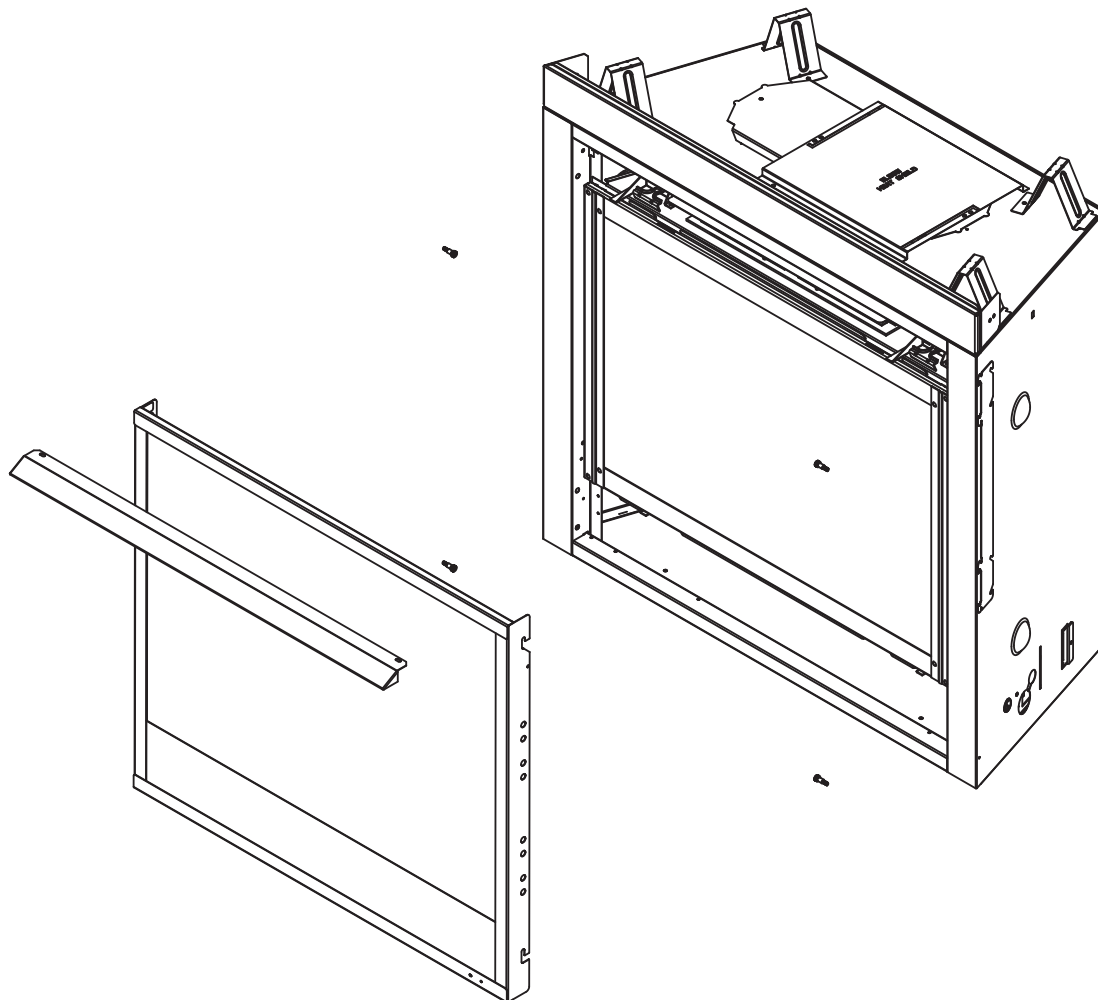

Figure 11.2 Install Majestic Decorative Front and Angled Hood
2. Remove four shoulder bolts from manual bag assembly and install as shown in Figure 11.2.
4. Install hood on appliance by inserting into the two hood clips. See Figure 11.2.